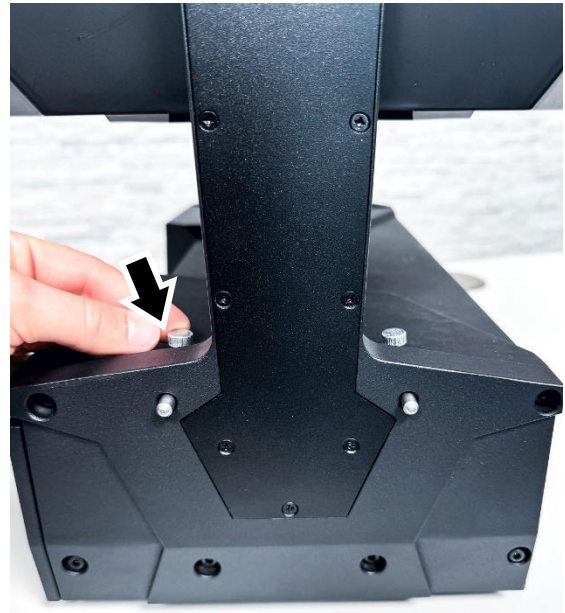

Figure 4. Alignment pin release button
1. See Figure 4. The alignment pin release button is located on the base of the fixture.